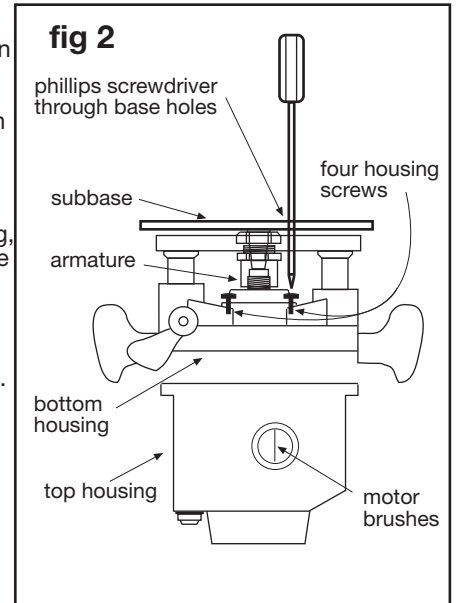
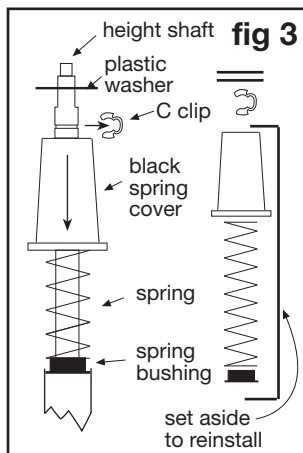
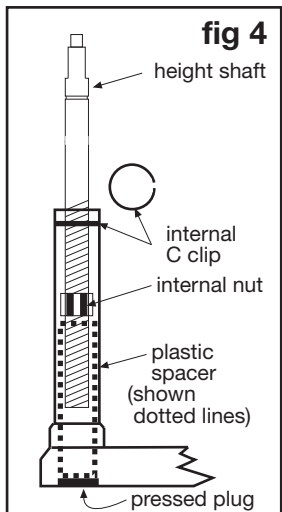

fig 2
fig 3
fig 4
2. Remove four screws securing lower motor housing (fig 2). Secure the power switch in the on position by wrapping it with tape or a plastic tie strap, to hold it in position when the router is separated. Separate the upper and lower case halves by pulling them apart. No loose parts will fall out., the armature will remain in the bottom housing.
3. Remove subbase (fig 2). Stand bottom housing upright, Using (fig 3) press down black spring cover and remove C clip. Remove black spring cover, spring, and spring bushing. Using a small screwdriver remove internal C clip (fig 4) **NOTE: unthreading height shaft from internal nut improves C clip removal.** Remove internal nut. The pressed plug and plastic spacer in bottom of post must be removed. Place height rod into post, tap with hammer to remove plug. Store plug, plastic spacer, internal nut & height rod, internal C clip, external C clip washers & height knob.
- 1.** Using (fig 2) Adjust #21 lead screw, leaving approximately 1/2" exposed threads. Plunge router by hand 1/8" past desired height, and secure plunge lock.
Using (fig 3) To prevent damage to the #1 mainshaft and #21 lead screw, adjust the lead screw leaving 1/2" threads exposed. Grasp router handles, release plunge lock, advance router up until lead screw rapid collar and retainers are all in contact, engage plunge lock.